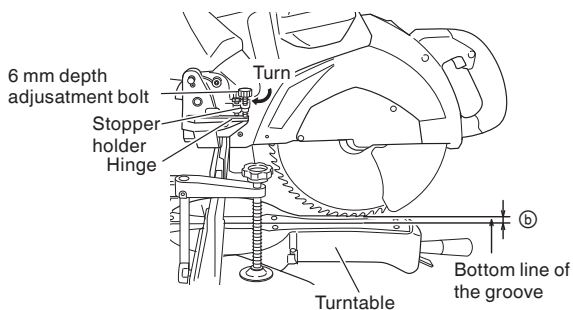

Fig. 47
- (1) Turn the stopper holder on the direction shown in Fig. 47. Lower the motor head, and turn the 6 mm depth adjustment bolt by hand. (Where the head of the 6 mm depth adjustment bolt contacts the hinge.)